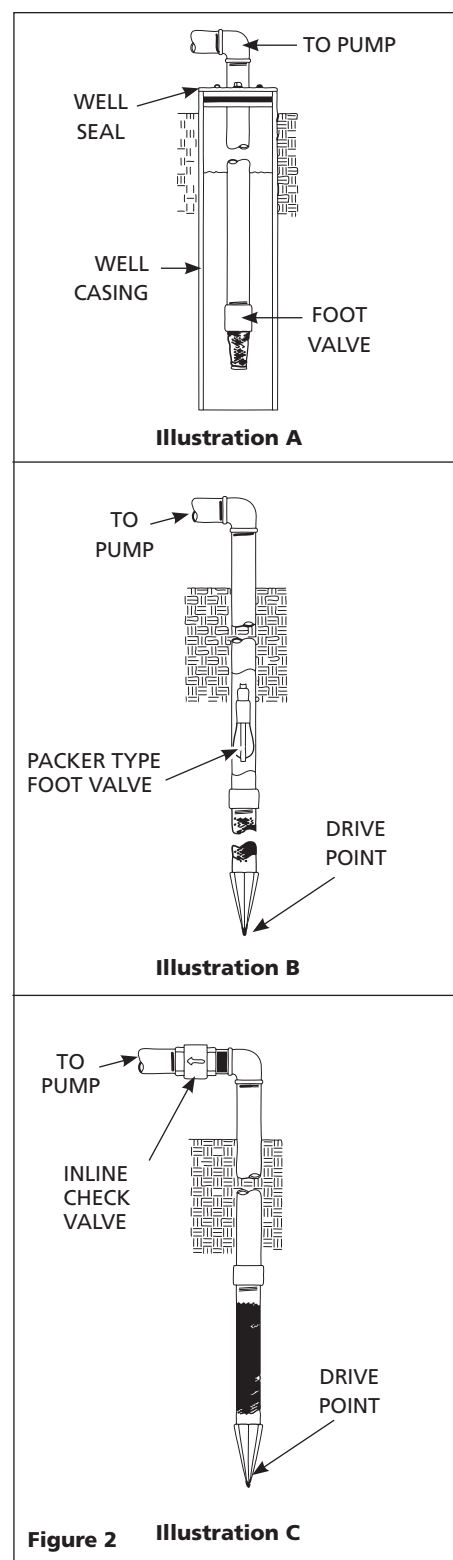

Figure 2 Illustration C
A shallow well jet assembly can be used with the deep well pump when the pump is located 25 feet vertically of the water level (See converting to shallow well pump on page 5). Shallow well installations have only one pipe between the pump and water supply (Figure 2).
1. Install a foot valve on the first section of pipe (Figure 2, Illustration A).
NOTE: A packer type foot valve can be installed in the well (Figure 2, Illustration B). This type of foot valve allows the piping to be filled with water when priming and makes the inlet pipe much easier to test for leaks. Follow the manufacturer's instructions when installing the packer type foot valve.
As an alternative, an in-line check valve can be used with a driven well (Figure 2, Illustration C). The pipe between the check valve and the water level will always be under a vacuum.